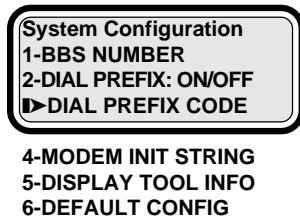

Figure 2.32: System Configuration
- Select DIAL PREFIX CODE from the SYSTEM CONFIG menu (See Fig 2.32).